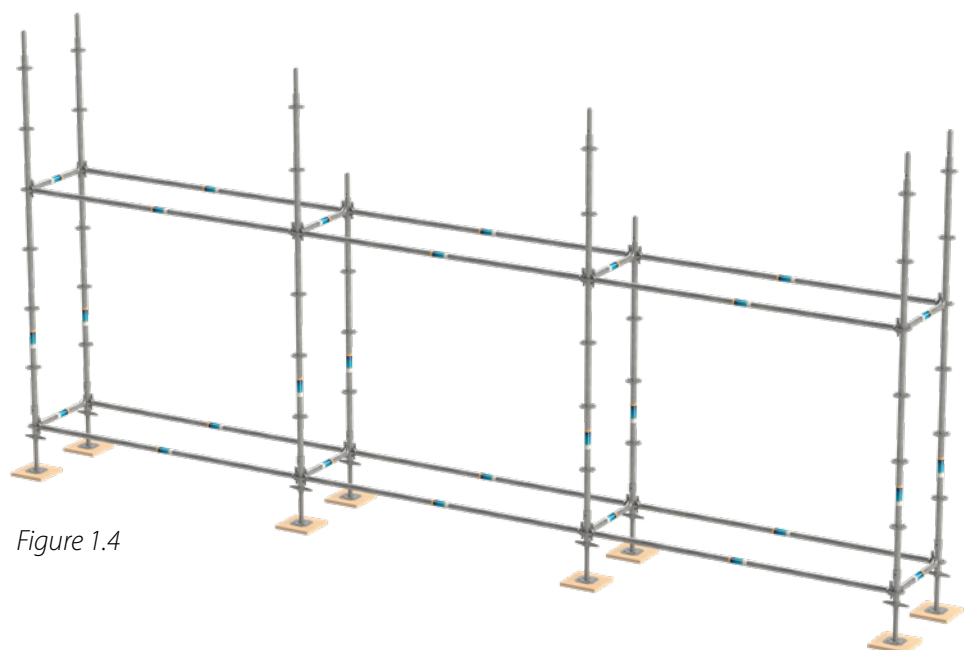

Figure 1.4
1.2.6 Start the assembly of the first level by fixing the tubular ledgers and intermediate ledgers at the designated points (see figure 1.4).